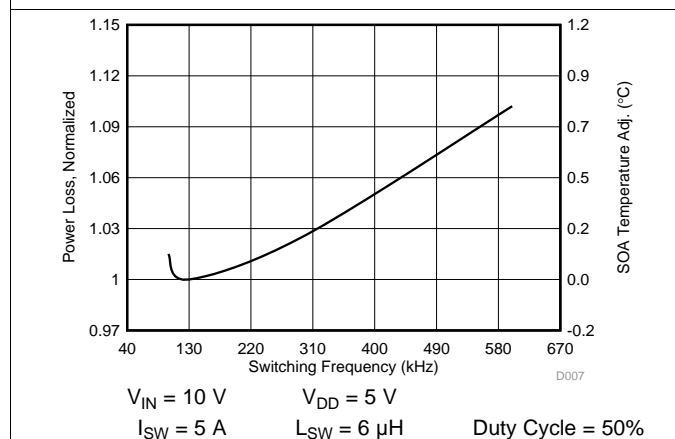

Figure 7. Normalized Power Loss vs Frequency
- Normalized Power Loss for switching frequency \approx 1.03 (Figure 7)
- SOA adjustment for switching frequency \approx 0.20°C (Figure 7)